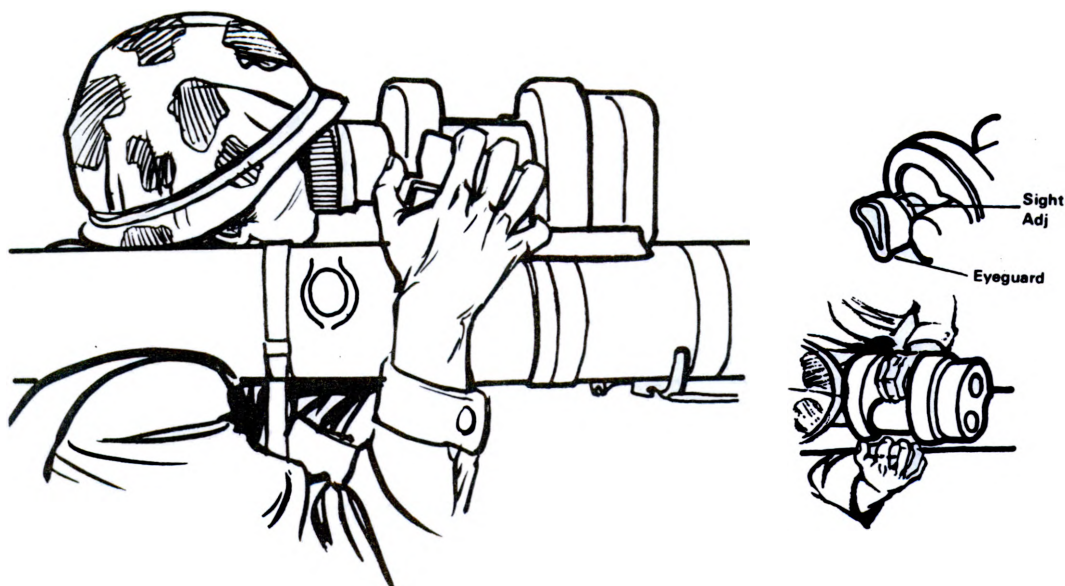

Figure 3
c. Position the right hand on the trigger mechanism with the thumb on the safety plunger, three fingers on the trigger bar, and the little finger in front of the trigger mechanism, as shown in figure 3.